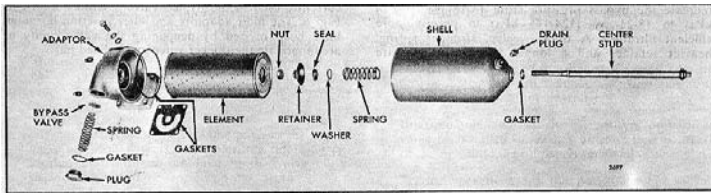

FIG. 4 - Full Flow Oil Filter Details and Relative Location of Parts
5. Remove and discard the element retainer seal (Fig. 4). Install a new seal.